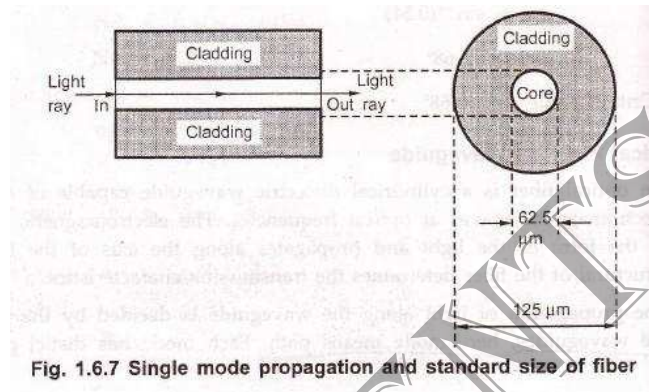

Fig. 1.6.7 Single mode propagation and standard size of fiber
- x To understand the general nature of light wave propagation in optical fiber. We first consider the construction of optical fiber. The innermost is the glass core of very thin diameter with a slight lower refractive index  $n_2$ . The light wave can propagate along such a optical fiber. A single mode propagation is illustrated in Fig. 1.6.7 along with standard size of fiber.